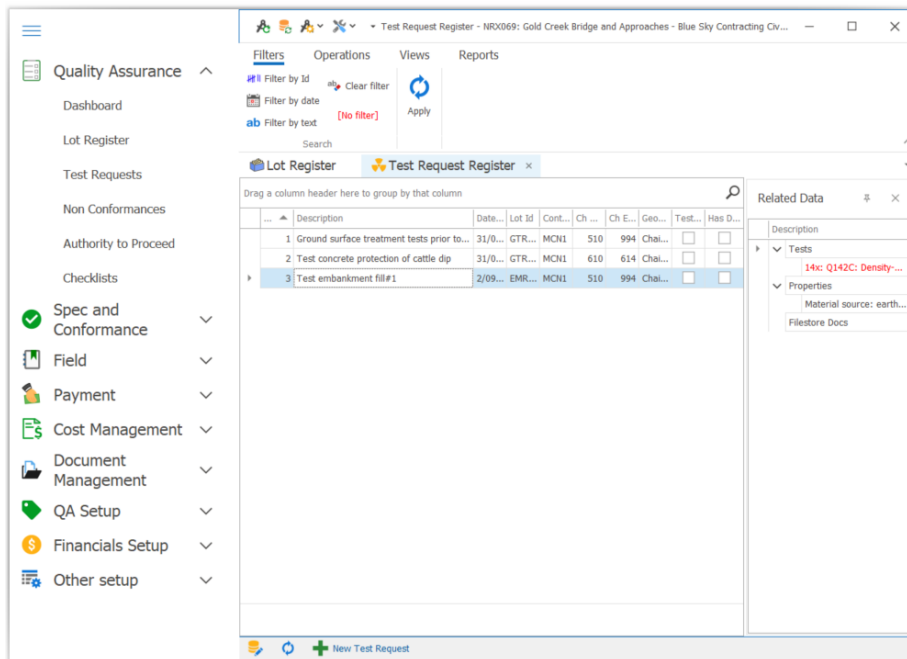

Figure 101 Test request register with additional tests
9. Add in the property group manually by tying in directly to the grid, then press *Save & Finish*. When completed your Test Request Register should look like that in Figure 101.